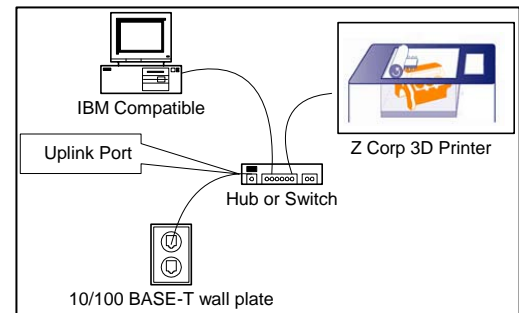

Figure 2: Connect with a hub or switch
- a) Hardware setup (see figure 2)